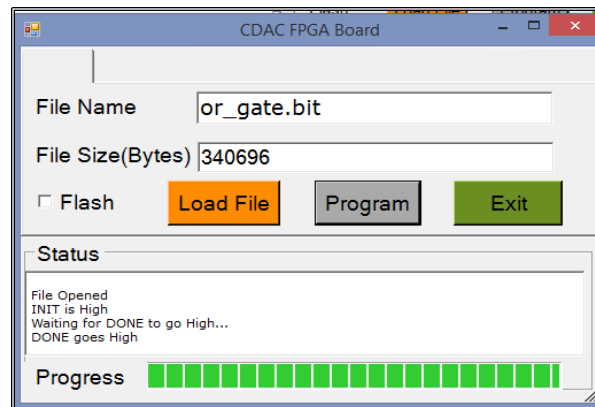

Fig 1.37: Programming the FPGA
39. When the FPGA is programmed successfully then a message “**DONE goes High**” will be displayed in the **Status** console at the bottom of the window (Fig 1.37). Also a red LED on the board will glow to indicate that the FPGA has been programmed successfully.